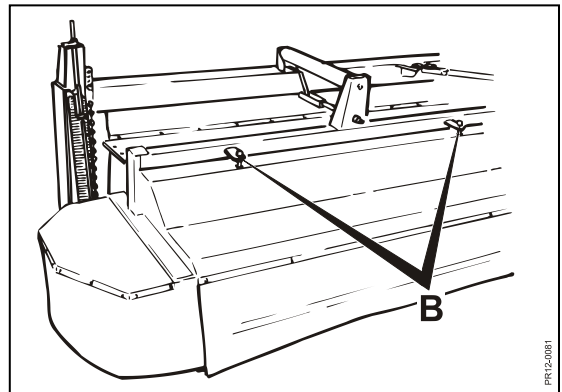

Fig. 3-11
- Fig. 3-11** The degree of conditioning can be varied by changing the distance between the conditioner plate and the rotor.